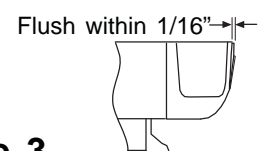

Figure 3
2. Depress pushbar and make sure latch bolt retracts and extends fully (see Figure 3).
4. Check latch bolt(s) for full retraction (must clear strike (see Figure 3)).
5. Release solenoid and check latch bolt extension (see Figure 3).